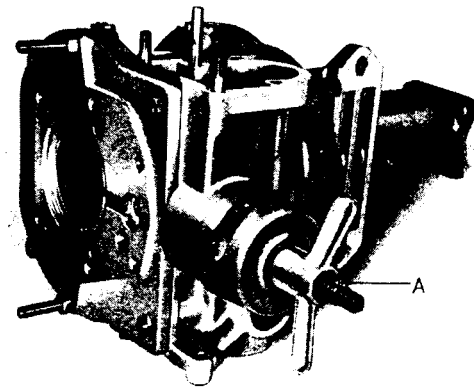

Fig. 11 Extracting the Oil Pump
Remove the solenoid bracket as previously described and lift out the accumulator spring and tube to give access to the oil pump non-return valve. Remove oil pump non-return valve plug, spring, plunger and ball (F). Remove oil drain plug (D) and the oil strainer (B) which is held in place with the long bolt (C). Now take out the special screwed plug (E) and the two oil pump body screws (G). Screw the short threaded end (A) of the extractor bolt into the oil pump body in place of the special screwed plug. Turn the wing nut on the long screwed end of the extractor bolt (A), drawing out the pump body (Fig. 11).